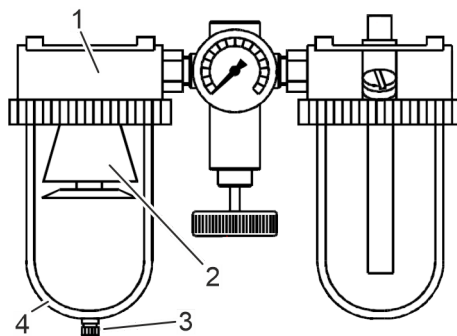

Fig. 25: Water separator
1. ➤ Open the condensate drain (Fig. 25/3) and collect the condensate.
2. ➤ Close the condensate drain (Fig. 25/3).
3. ➤ Unscrew the condensate tank (Fig. 25/4) if it is dirty.
4. ➤ Clean the condensate tank (Fig. 25/4) in the proper manner. Note the cleaning guidelines in the operating instructions for the service unit for compressed air.
5. ➤ Screw on the condensate tank (Fig. 25/4).
Ensure that the condensate drain (Fig. 25/3) is closed.
If it is dirty, clean the filter (Fig. 25/2) as follows:
1. ➤ Unscrew the condensate tank (Fig. 25/4).
5. ➤ Put the filter (Fig. 25/2) back in. In doing so, ensure a flawless seal.
6. ➤ Screw on the condensate tank (Fig. 25/4).